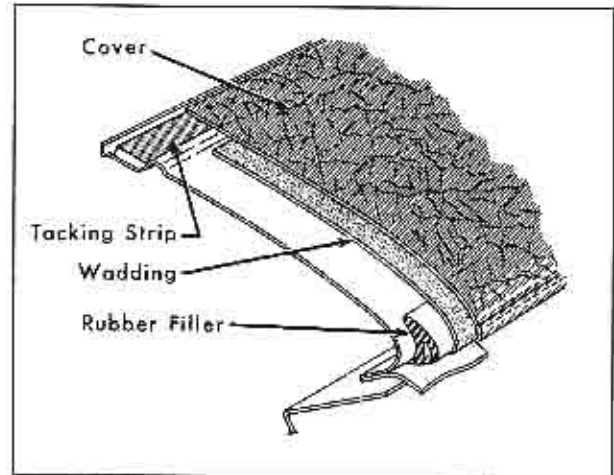

Fig. 3-2 Instrument Panel Upper Section Cover
6. Stay-tack cover to tacking strips across front of panel, removing any draws or wrinkles during stay-tacking operation; then, permanently tack cover to tacking strips and trim edges where necessary. Fig. 3-2.